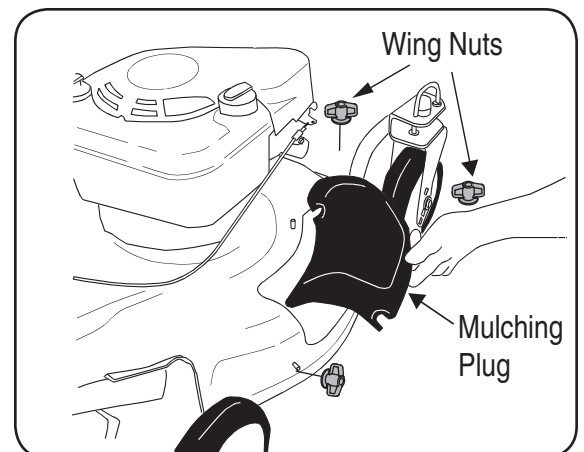
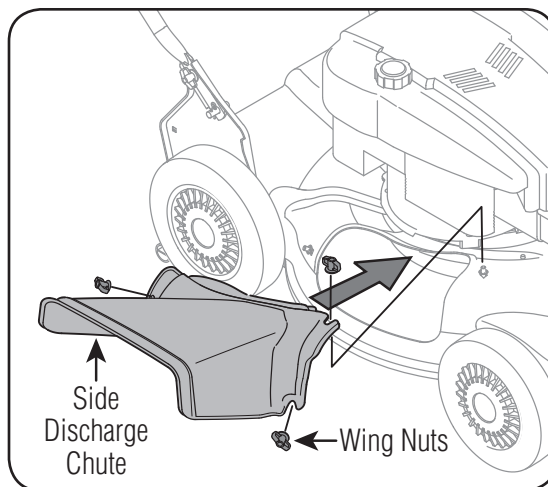

Figure 4
Figure 5
4. Insert post on cable ties into holes provided on the lower handle. Pull cable tie tight and trim excess. See Figure 4.
- Remove wing nuts holding mulching plug (see Figure 4) or side discharge chute (see Figure 5) in place. Then remove baffle or discharge chute.
- Attach discharge chute with wing nuts. See Figure 5.